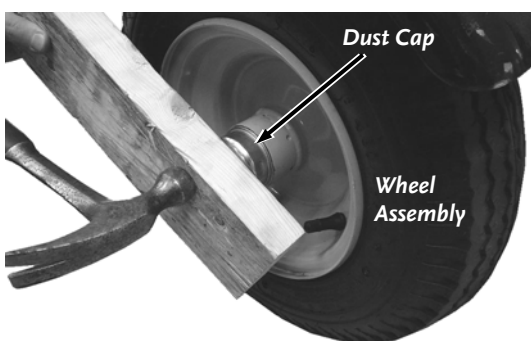

Figure 62
16. Place the Dust Cap onto the Wheel Assembly and secure it by placing a piece of wood over it and pounding lightly with a hammer until it is against the lip (**Figure 62**).